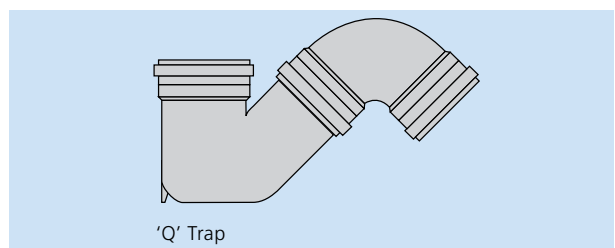

Fig. 21
- Use 4DG90 Gully Trap and 4D23D Bend 87 1/2° (Fig. 21)